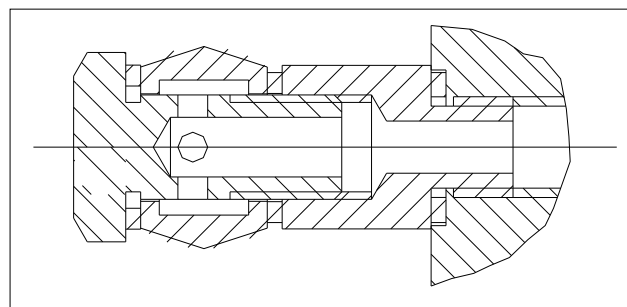

Fig. 33
- ◆ Connect the hydraulic unit to the circuit crossing with a flexible pipe. (**Fig. 33**)
The manufacturer supplies the rack to operate at 400V with a three-phase configuration; if the line voltage is different, the motor and transformer connection must be changed. **(Fig. 33)** It is also necessary to replace the thermal relay requesting that part from the manufacture and/or service center.